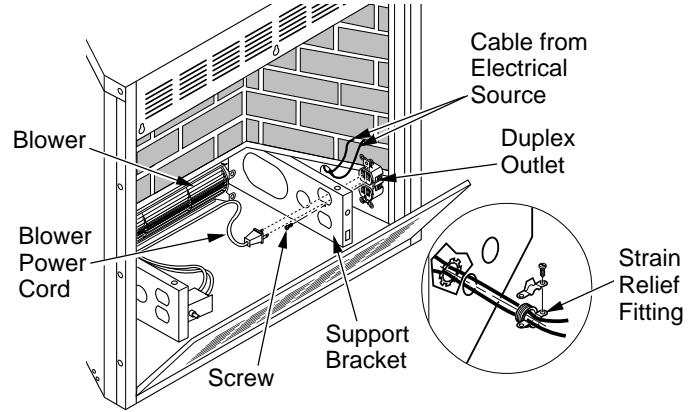

Figure 17 - Connecting Duplex Outlet
3. Before replacing bottom of firebox, install duplex outlet to the right support bracket in the bottom of firebox (see Figure 17).
4. Route wires from electrical box through smallest hole in outer casing using strain relief fitting provided (see Figure 17).